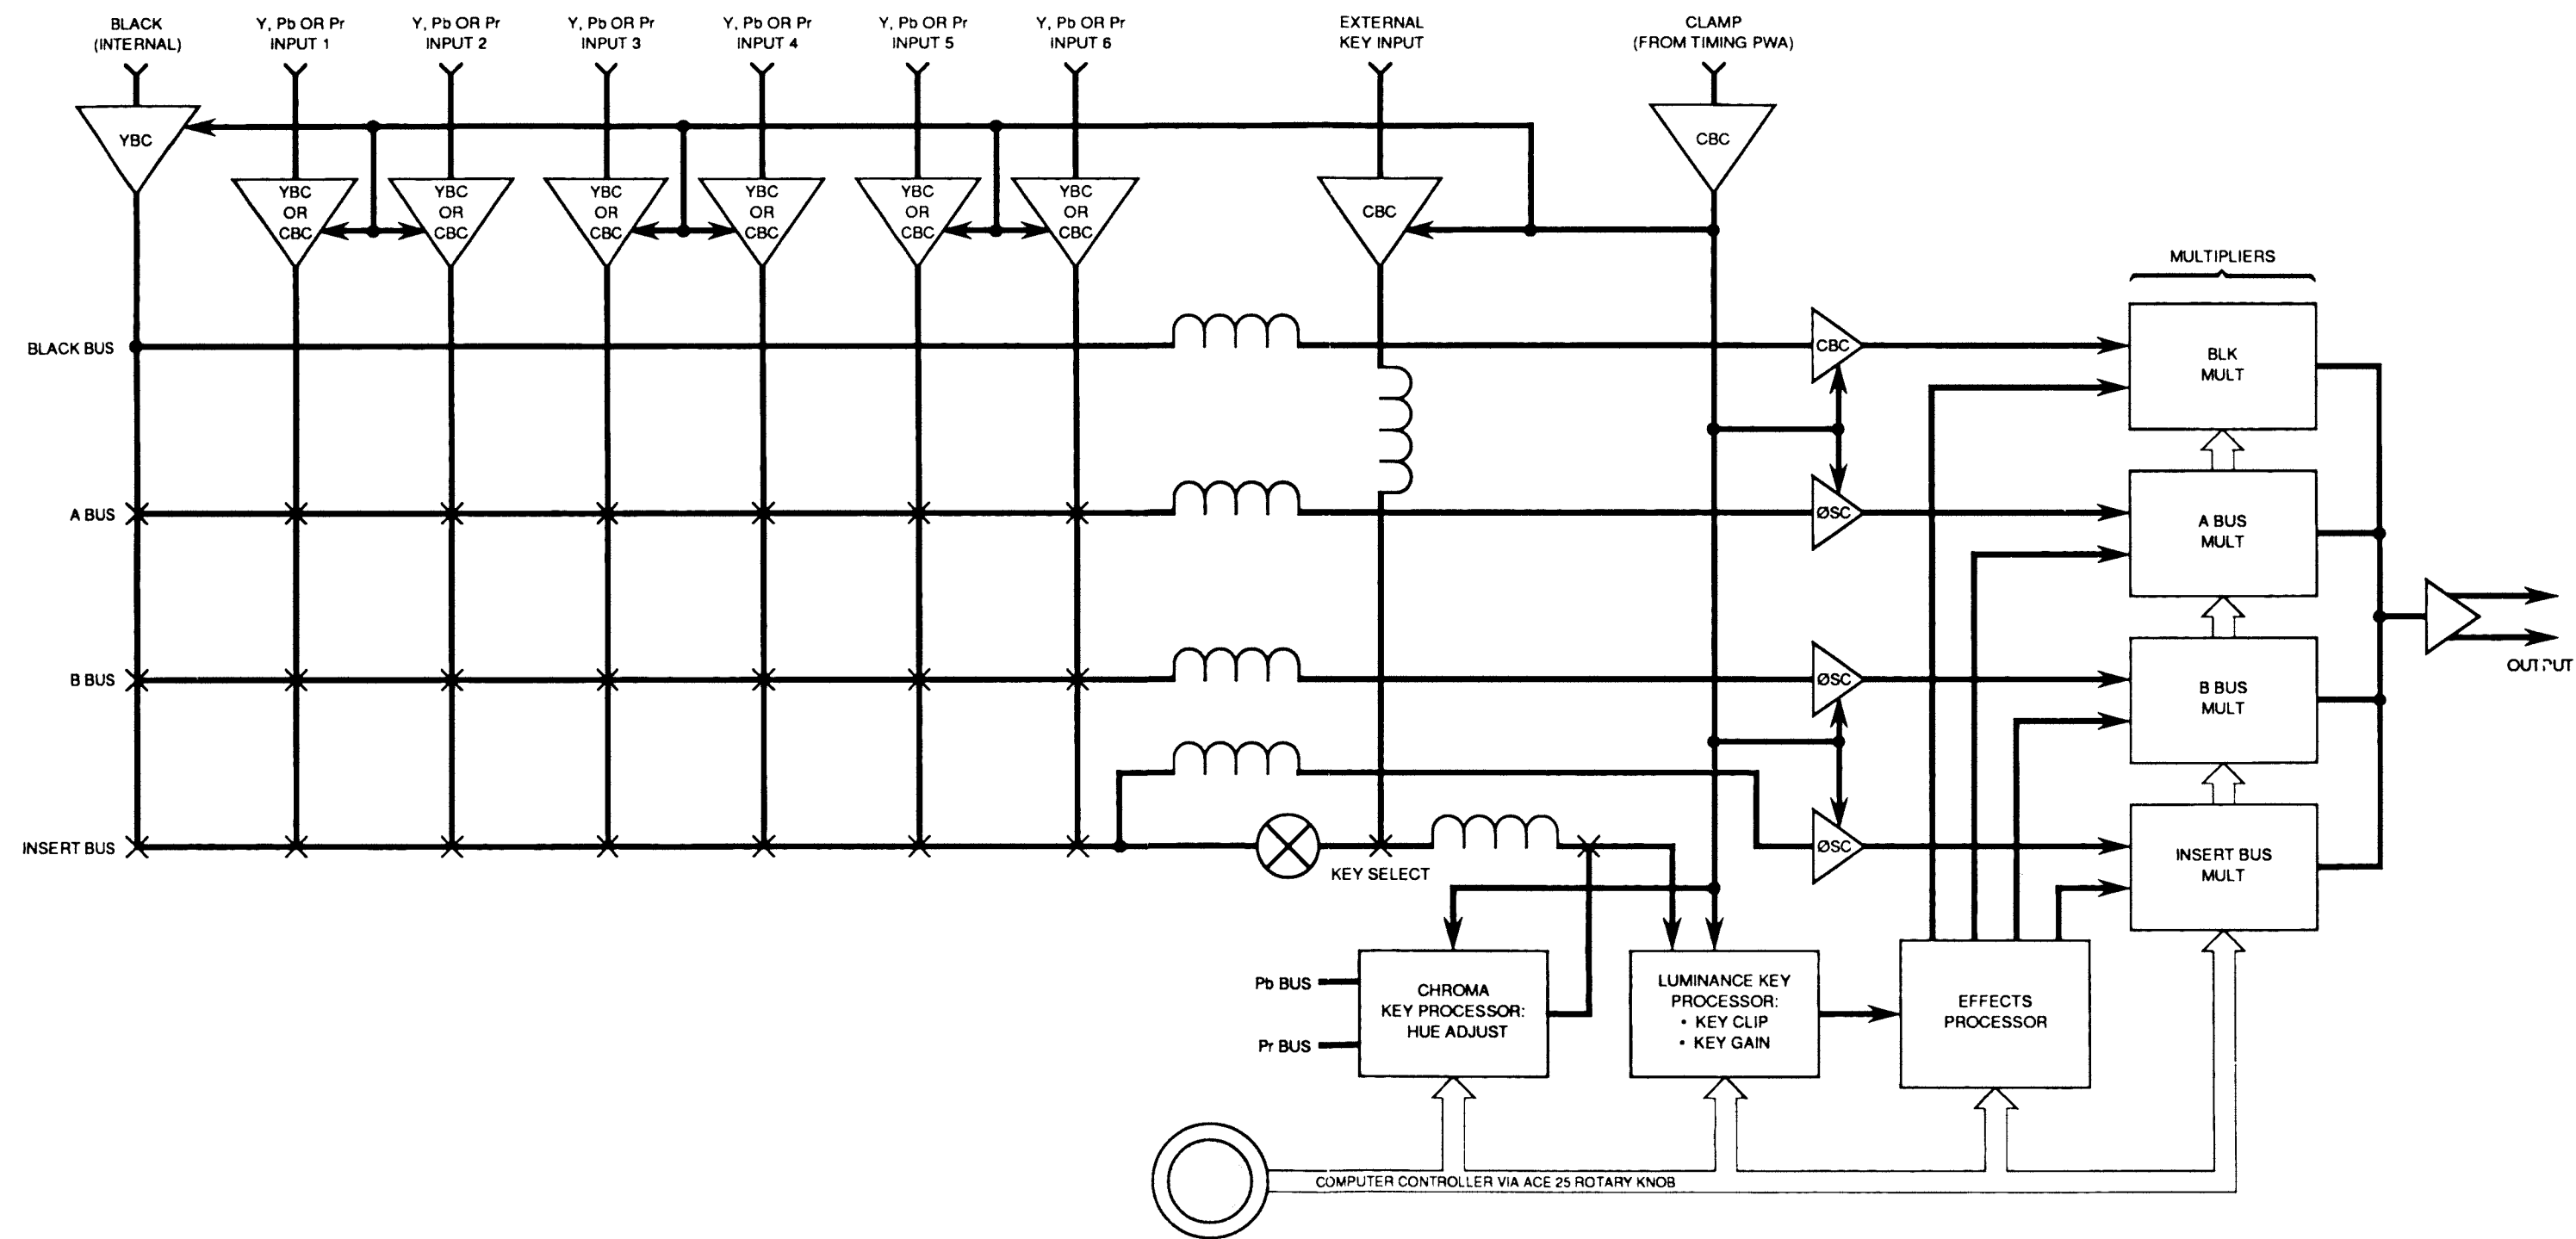

Figure 14-2.
The following paragraphs describe theory of operation for the Component Video Switcher PWA and its primary circuits. Figure 14-2 is a diagram showing the main video signal paths for the Y channel on the Component Video Switcher PWA. The Composite Video Switcher PWA processes three video signal channels: Y, Pr, and Pb. Y is the luminance signal, and Pr and Pb are the color difference signals. The Pb and Pr (color difference) channels are similar to the Y channel, with differences noted.
The Black input passes through a buffering circuit (shown as a triangle labeled "YBC" in Figure 14-2). The six external inputs for the Y channel pass through "YBC" buffering circuits. The six external inputs for the Pr and Pb channels pass through "CBC" clamping and buffering circuits. The external key input is used with the Y channel only, and passes through a "CBC" circuit. The primary difference between the "YBC" and "CBC" circuits is the use of the clamp signal for the "CBC" circuit. The Y channel inputs are clamped from sync tip, which may not be present in the Pr and Pb signals.
The Insert Bus signal goes through the crosspoint stage where Black or one of the six video signals is selected. The Insert Bus output signal is then split into two signals. The top signal path goes through a delay stage into a phase-shifting clamp-buffer (" Φ SC") circuit, before entering the Insert Bus multiplier circuit. The bottom signal path goes to an auto-crosspoint (shown as an "X" within a circle in Figure 14-2). This auto-crosspoint is only present for the Y channel. The auto-crosspoint selects Black or one of the six video input signals. If the auto-crosspoint is closed, a chroma key can be selected at a later crosspoint. If the auto-crosspoint is open, the external key input can be used to cut a key (shown by the crosspoint labeled "KEY SELECT" in Figure 14-2). The lower Insert Bus video signal continues through a delay stage to a crosspoint, which is linked to the Chroma Key Processor. This crosspoint selects the video signal entering the Luminance Key Processor.
The Luminance Buffer-Clamp ("YBC") circuit (shown in Figure 14-4), does two things: (1) it performs an impedance transformation from high to low; and (2) it clamps the sync tip to ground (0V). Two emitter-follower stages are incorporated in the circuit, with a diode clamp in the middle. This circuit is used for the Y inputs (Black, Y1-Y6) shown in the top portion of Figure 14-2. Outputs from this circuit go into the crosspoint bus stage.